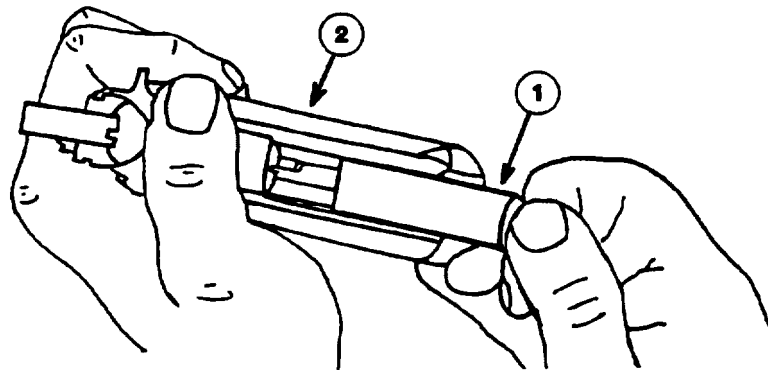

Figure 6-10. Removing Mainspring Housing
(8) Separate mainspring housing group (1), Figure 6-10, from the receiver assembly (2).
(4) Slide mainspring housing group (1), Figure 6-10, onto the receiver assembly (2).